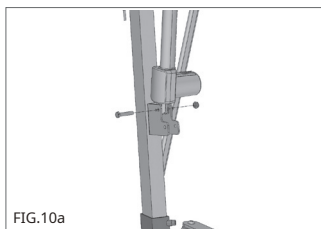

FIG.10a
1. Remove the bolts intended for the arm and the holes in the column to secure the actuator. Install the actuator in the correct position and secure it using the previously removed bolts. (Fig.10a-10b)